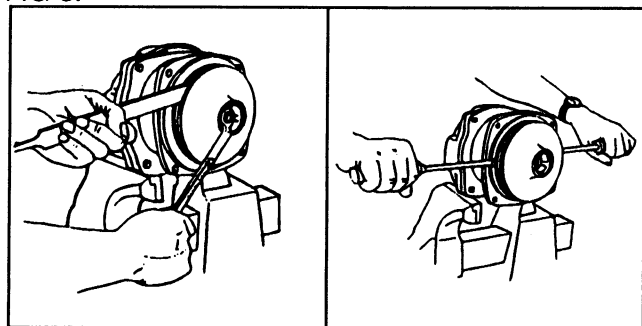

FIG. 6
2. To remove the impeller nut, clamp the flange in a vise and insert a large screwdriver or flat file (at least 10" long) into impeller vanes to prevent impeller from turning when loosening nut. Use a 5/8" box end or socket wrench to remove the impeller nut by turning it counterclockwise. See FIG 6.
3. Once nut is removed, place a screwdriver on each side (FIG 6) behind the impeller and pry away from the mounting flange. Remove woodruff key from the shaft. Remove O-ring from the mounting flange.